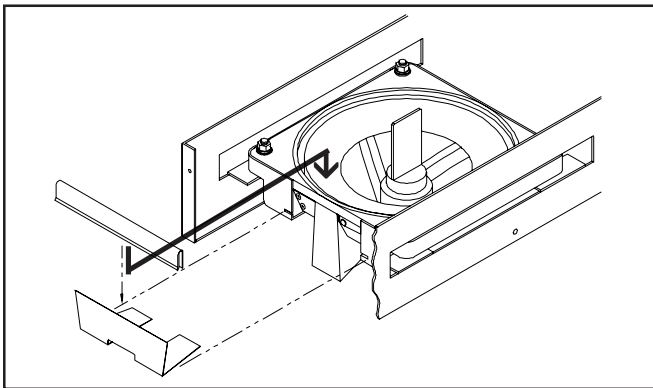

Fig. 13 - Shaver Blade Replacement
2. Remove the protective strip (some models) and pull the drip pan cover straight out (Fig. 13).